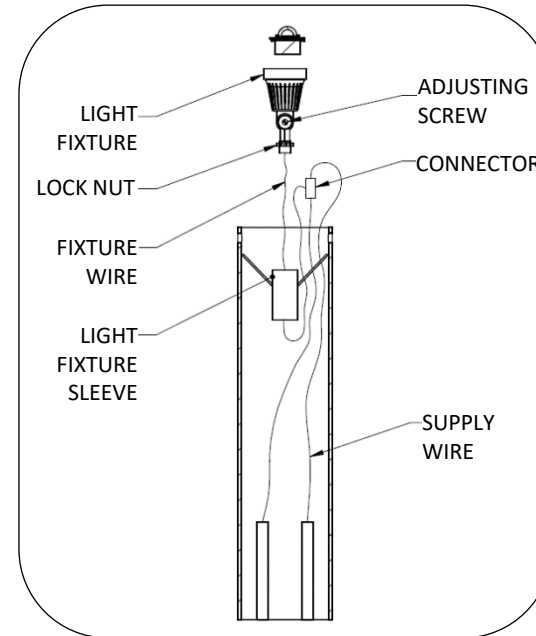

FIG.1 - MODIFYING LOW-VOLTAGE LIGHTING
- COMPATIBILITY: The solar retrofit top can replace the top casting on any 6" Annapolis bollard, except embedded bollards filled with concrete. Annapolis bollards with low-voltage lighting must be modified to accept the retrofit top, see Fig. 1.
3. Cut the fixture wire and seal the end of the wire on the supply side with a suitable insulating product, see Fig. 1.